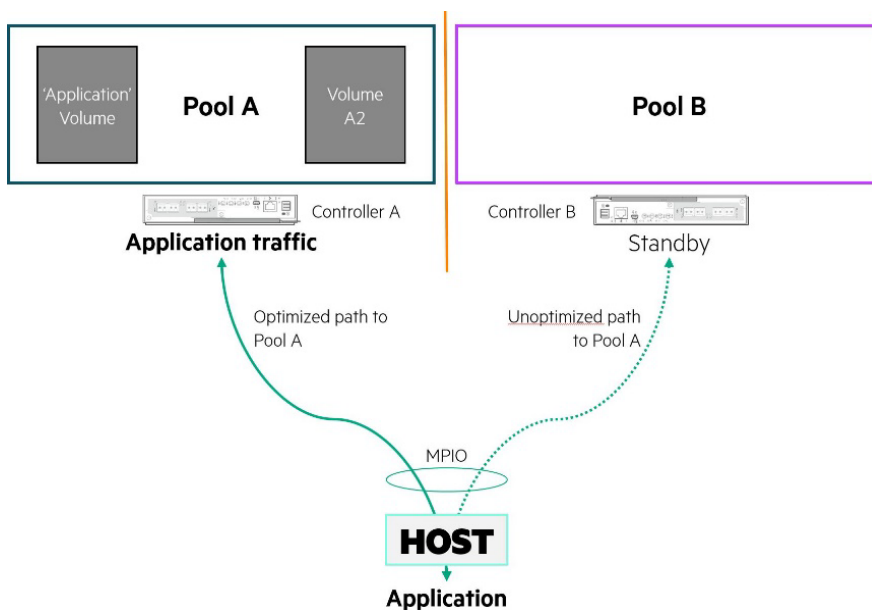

Figure 5. Example of a host with redundant paths to a volume
- **Example:** Figure 5 illustrates a host with redundant paths to a volume.